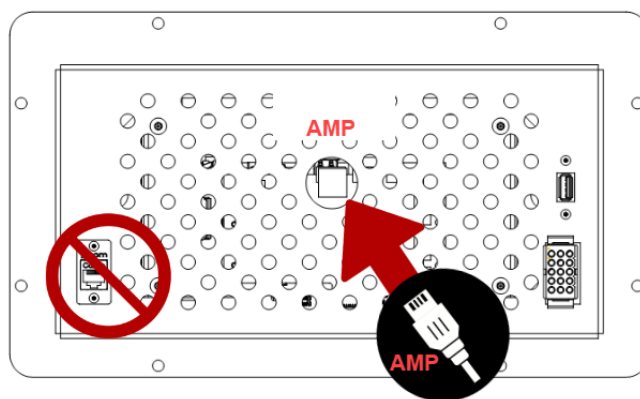

Figure 5: Rear Controller RJ45 Connection
***Connecting this cable to the incorrect port may cause damage to the equipment.*** See Figure 5 for details.